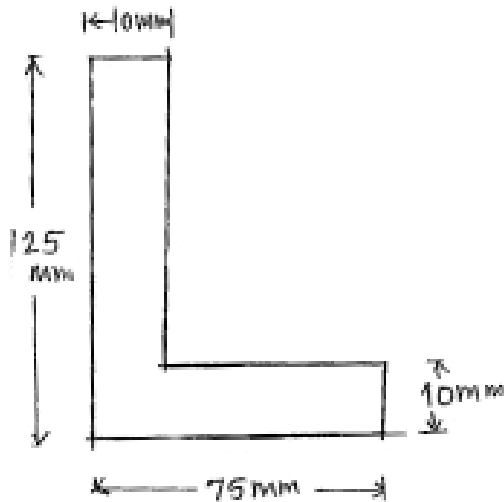

Figure No. 1
- a) Find the least moment of Inertia about the centroidal axes X-X and Y-Y of an unequal angle section $125 \text{ mm} \times 75 \text{ mm} \times 10 \text{ mm}$ as shown in figure No. 1.